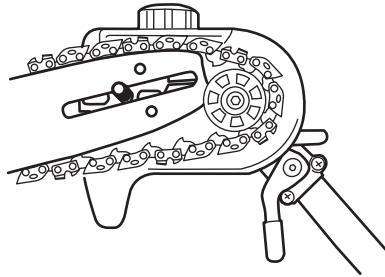

Fig. 7d
f). Align the saw chain around the drive sprocket (D10) and place one corner of the guide bar into a gap of the sprocket. (See Fig. 7d)